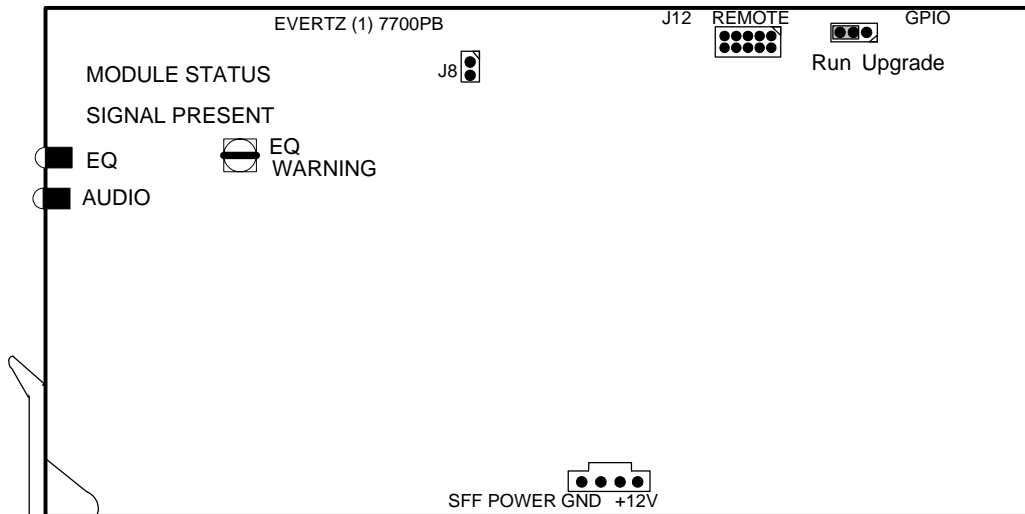

Figure 1-1 : Location of UPGRADE Jumper on Rev 1 7700PB Boards
2. Connect the 7700PB Rev 1 Serial Upgrade cable to the 2 row x 5 pin header labelled J12 on the top edge of the 7700PB board as shown in Figure 1-1. The cable has a key installed so that it cannot be installed backwards.
3. Move the jumper, located on the end of the GPIO header to the UPGRADE position as shown in Figure 1-1.